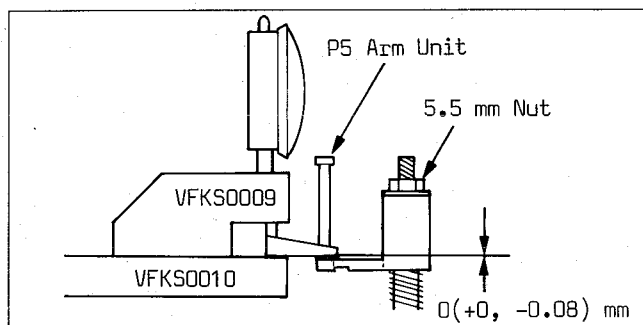

Fig. M7-4
2. Slightly raise the P5 post above the plate by turning the 5.5mm Nut counterclockwise. Place the foot on the post as shown in Fig. M7-4.